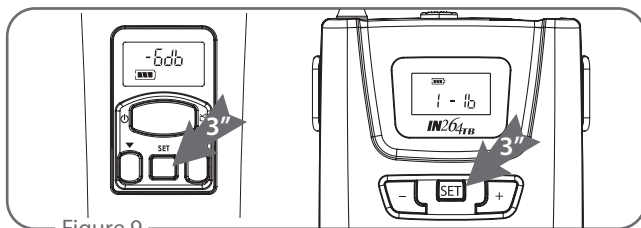

Figure 9
- (1) Press "Set" button ②③ button for 3 seconds, the group (G) will flash. (Figure 9)
- (2) Press "▲Up" ②① ②⑨ or "▼Down" ②② ③① button to select a desired group.
- (3) Press "Set" again and the Channel (CH) will flash.
- (4) Press "▲Up" or "▼Down" button to select a desired channel.
- (5) After setting, press "Set" again to save the setting.